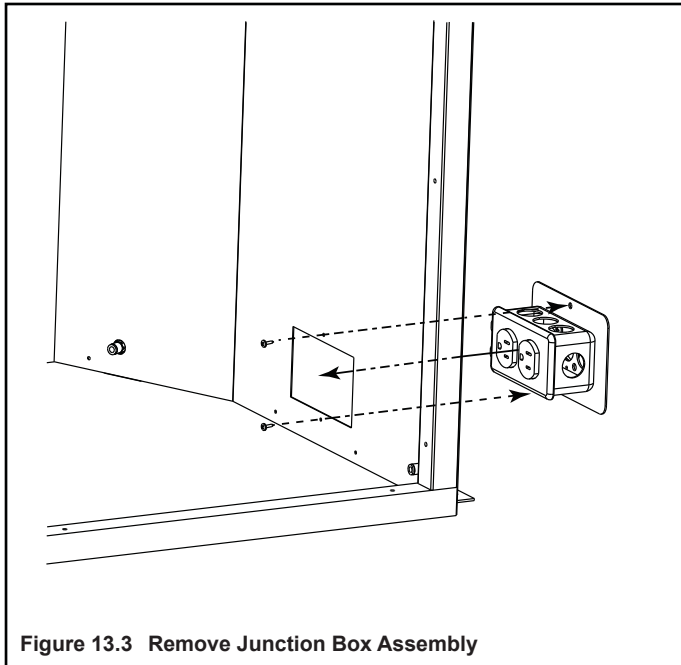

Figure 13.3 Remove Junction Box Assembly
- Insert junction box and receptable assembly through hole in outer shell (see Figure 13.3) and fasten with two screws.